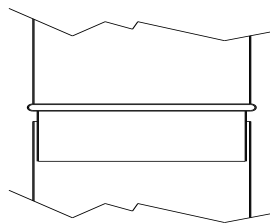
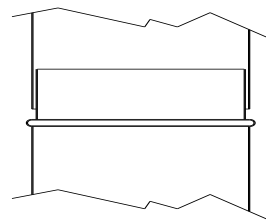

Figure 1:
Figure 2:
- When the pipes run through the inside of the home or a brick chimney, they should be mounted as shown in Figure 1 to prevent liquids produced by the condensation of the gases flowing through the joints and out of the pipes. If a pipe section runs outside the building it must be mounted in the direction shown in Figure 2 to prevent rainwater draining down the outside part of the pipe and entering the pipe interior through the joints.